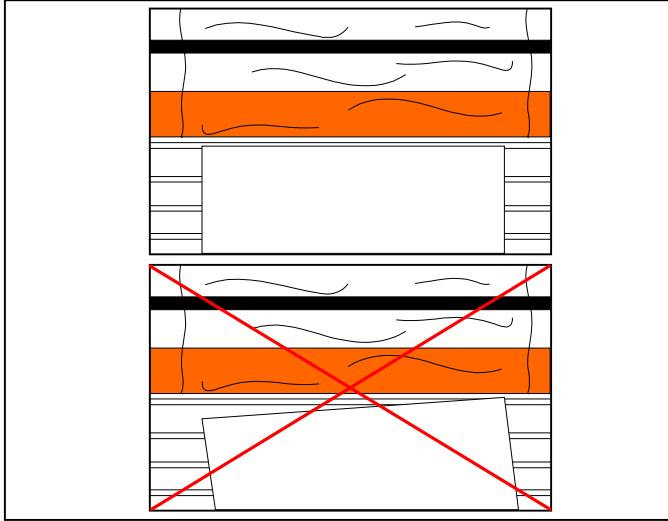

Fig. 28
9. Align the leading edge of the item square to the heat roller nip (Figure 28).